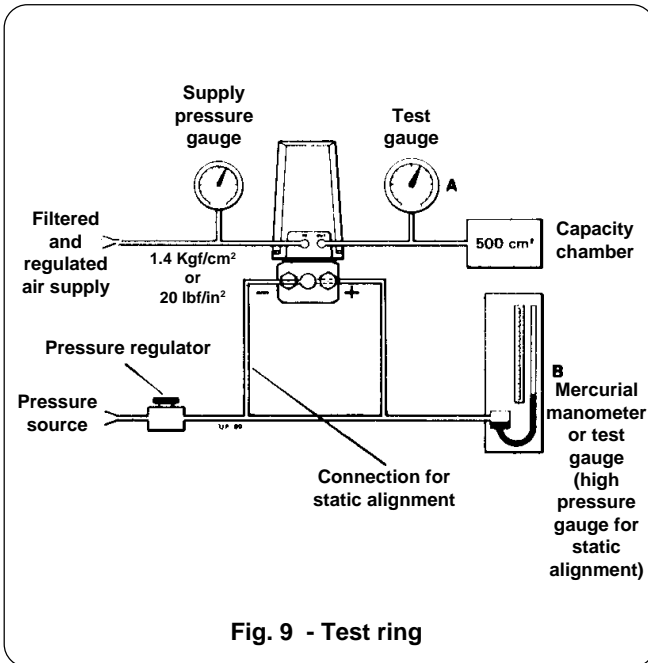

Fig. 9 - Test rig
# CALIBRATION AND ACCURATE SPAN SETTING (Fig. 9)
- a) Connect the above equipment and transmitter as shown in fig. 9.
- a) Set up the transmitter and connect to the test rig (fig. 9). Remove the suppression spring and bracket and check calibration in accordance with "calibration and accurate span setting" sub section.
- a) Set up the transmitter, connect to the test rig (fig. 9) and check calibration as described in "calibration and accurate span setting" section. For this check the elevation bracket and spring must be removed.
- a) Connect the transmitter to the test rig (fig. 9) and remove the elevation spring and bracket from the transmitter. Calibrate in accordance with "calibration and accurate span setting" sub-section to direct output valves.
- Set up the transmitter, connect to the testing (Fig. 9) in the previous sections and disconnect the capsule as described.